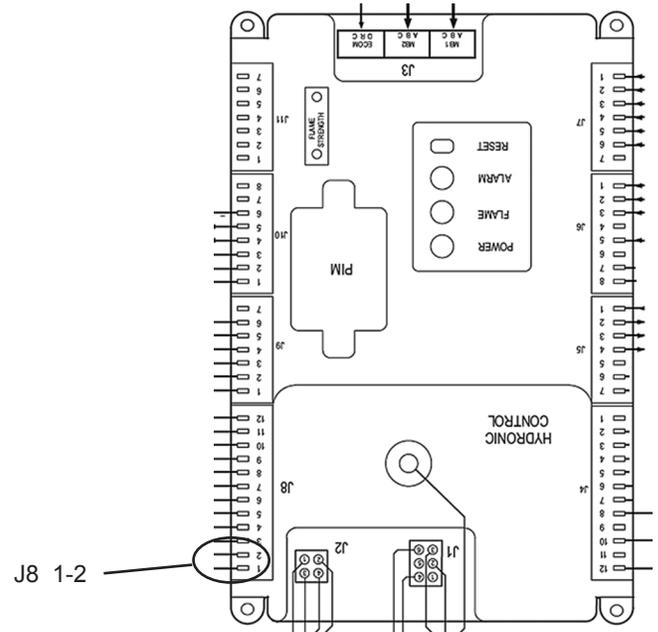

Fig. B1-6 - Checking the safety switches
10. Check for 24V AC between terminals 1 and 2 of J8 on the control module. See Fig. B1-6. If 24V AC is present here, this means that the Condensate trap level switch is OK. If 24V AC is not present, troubleshoot the condensate trap level switch. See Section B12.